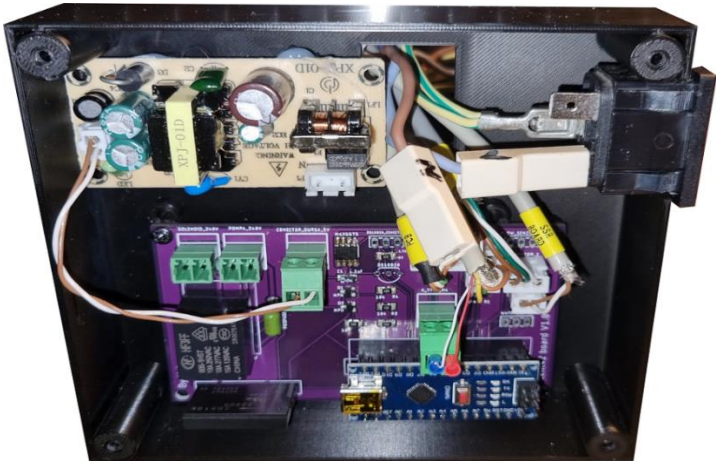

Fig. 10.1
- Mount the original power module, connect the earth wire, then connect the blue wire coming from the button panel in position 1 , the unconnected brown wire will remain in air for now (fig. 10.1)